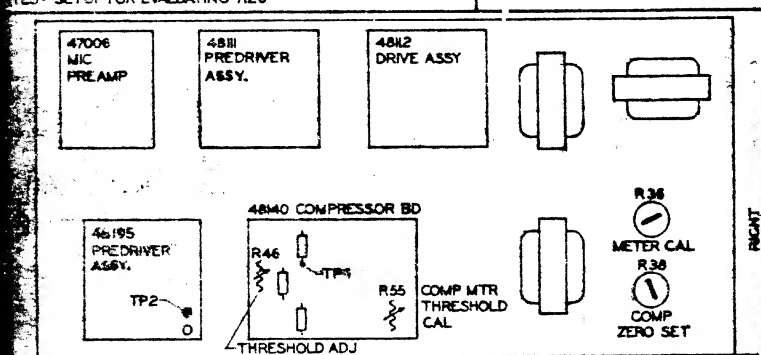

FIG. 2
3. Setup for test as per Figure 2.